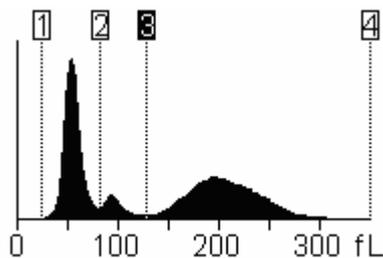

Figure7-48 Adjusting discriminator (1)
3. Press [3] to select the third discriminator, as Figure7-48 shows;